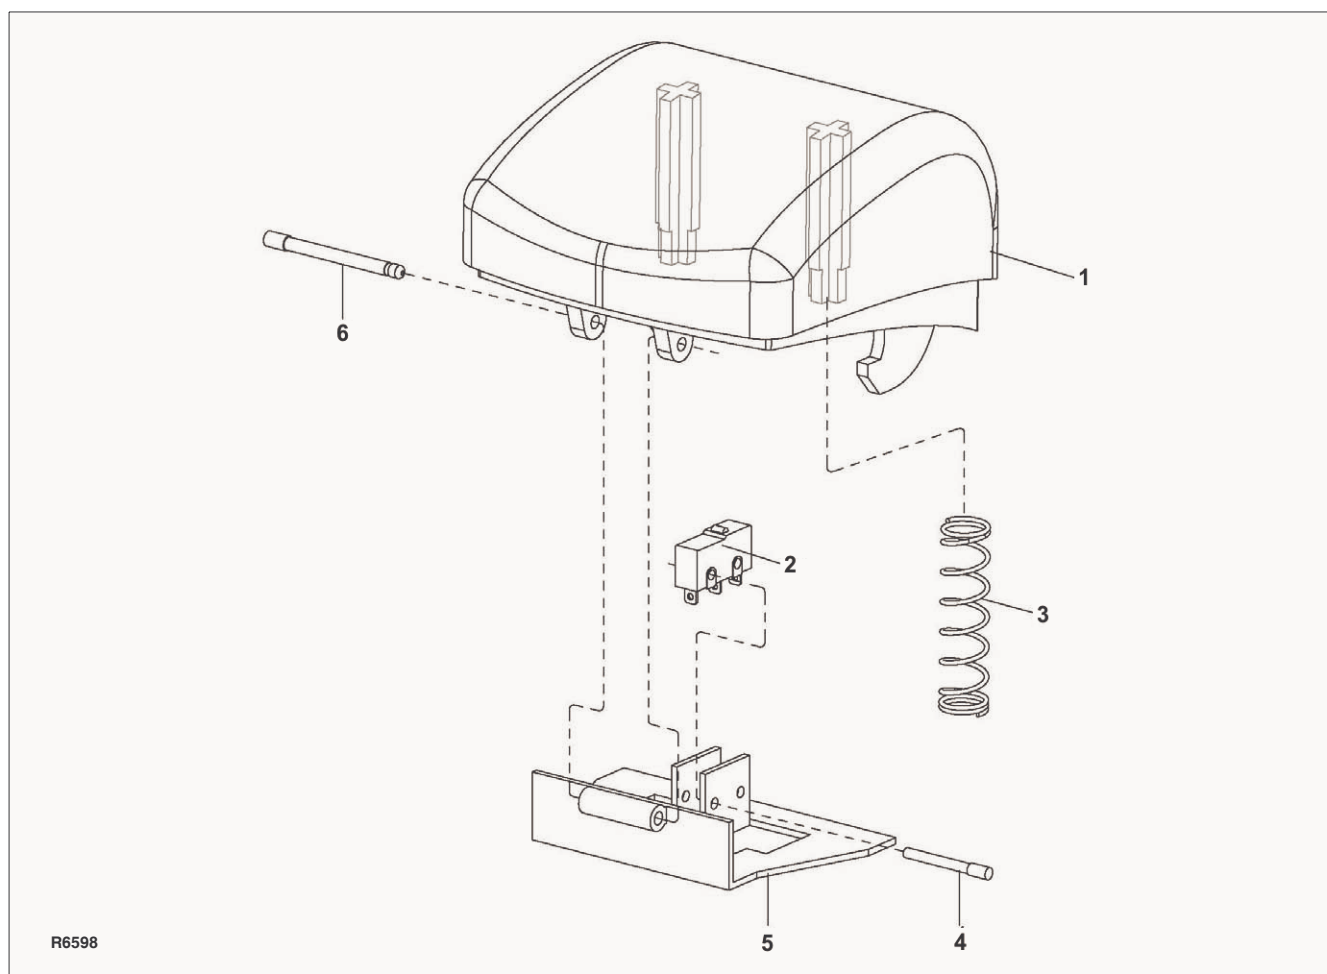

Figure 5-3 Emergency Reverse Switch Assembly
2. Position cap assembly (1, Figure 5-3) on control head and secure with four screws (6).
4. Remove pin (6, Figure 5-3), bracket (5), and spring (3) from button (1).
5. Remove two pins (4) and switch (2) from bracket (5).
6. Disconnect harness (8, Figure 12-21) from switch (2, Figure 5-3) and connect it to the new switch.
7. Position the new switch (2, Figure 5-3) in bracket (5) and secure with two pins (4).